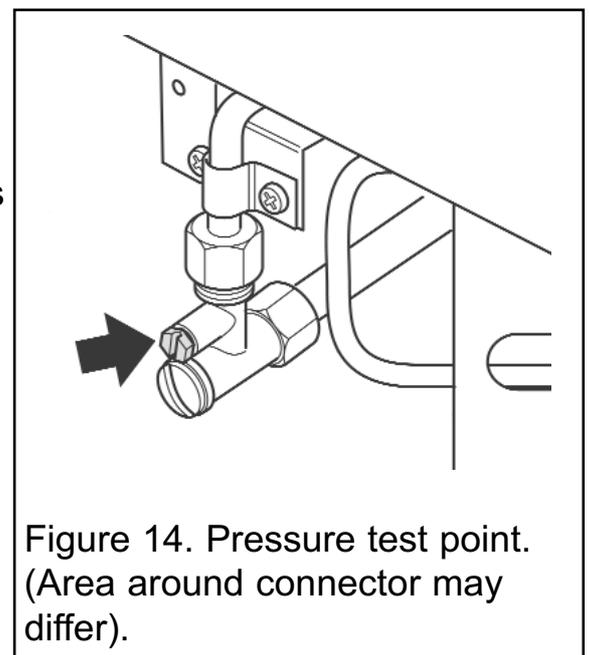

Figure 14. Pressure test point. (Area around connector may differ).
1. Attach a pressure gauge to the pressure test point (See figure 14).